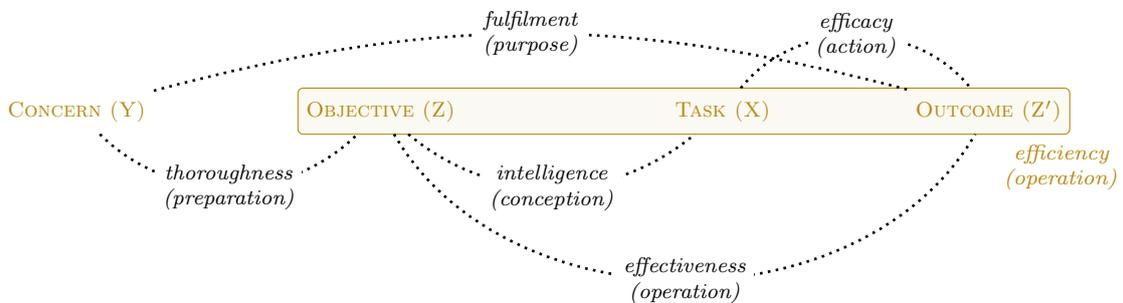

FIGURE 5 Efficiency Assessment (EFI) map
- Efficiency assessments (Figure 5)
- Efficiency assessment — EFI_[M] (Figure 5)